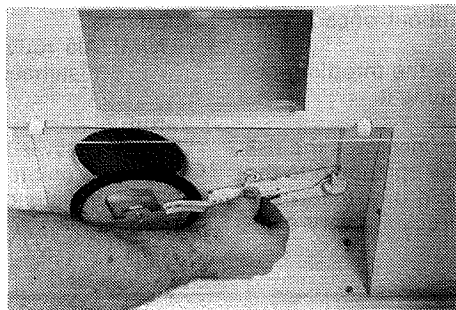

Fig. 6
2. Fatta strypdonet enl. fig. 6 och tryck det mot spiskåpens baksida.
2. Grip the throttling device as shown in Fig. 6 and push it towards the rear of the cooker hood.